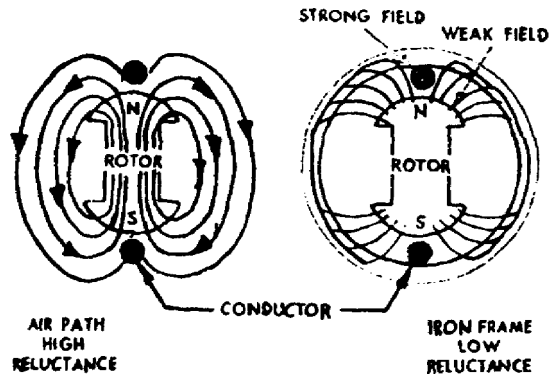

Figure 19. Magnetic field reluctance.
c. A generator made with a bar magnet rotating inside a single loop of wire is not practical, since very little voltage and current are produced. The performance is improved when both the loop of wire and the magnet are placed inside an iron frame (fig 19). The iron frame not only provides a place onto which the loop of wire can be assembled, but also acts as a conducting path for the magnetic lines of force. Without the iron frame, magnetism, after leaving the N pole of the rotating bar magnet, must travel through air to get to the S pole. Because air has a high reluctance to magnetism, only a few lines of force will come out of the N pole and enter the S pole. Since iron conducts magnetism very easily, adding the iron frame greatly increases the number of lines of force between the N pole and S pole. This means that more lines of force will be cutting across the conductor which lies between the bar magnet and frame.